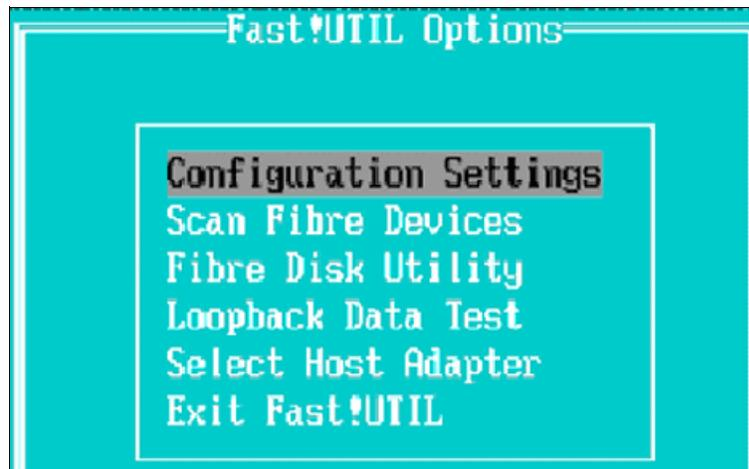

Figure 10-5 Fast!UTIL Options screen
4. The Fast!UTIL options appear. Select **Configuration Settings** and press Enter, as shown in Figure 10-5.